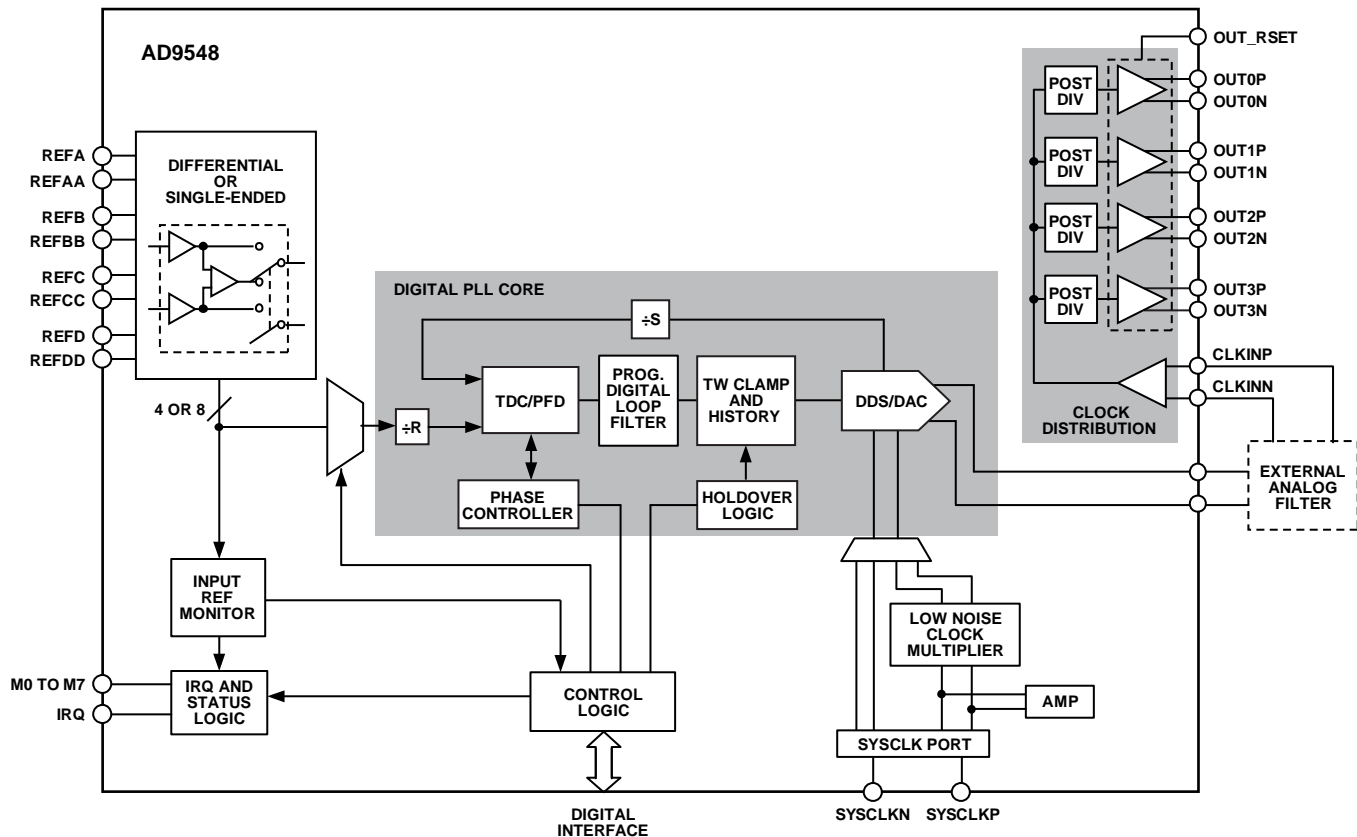

Figure 35. Detailed Block Diagram
The device offers manual and automatic reference switchover capability if the active reference is degraded or fails completely. A direct digital synthesizer (DDS) and integrated DAC constitute a digitally controlled oscillator (DCO). The DCO output is a sinusoidal signal (450 MHz maximum) at a frequency determined by the active reference frequency and the programmed values of the reference prescaler (R) and feedback divider (S). Although not explicitly shown in Figure 35, the S-divider has both an integer and fractional component, which is similar to a fractional-N synthesizer.